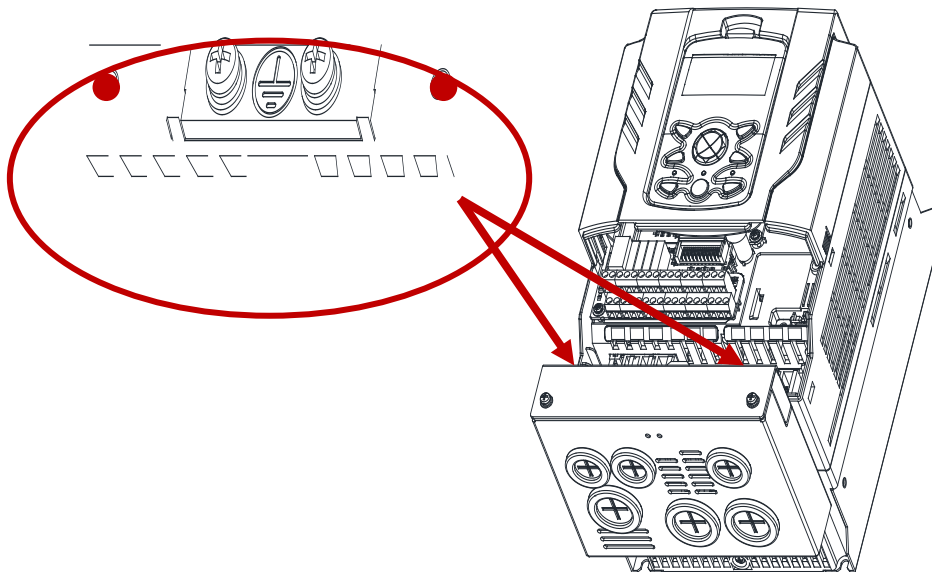

Figure 2. Install Conduit Option
- ② Install screws in locations shown in Figure 2.